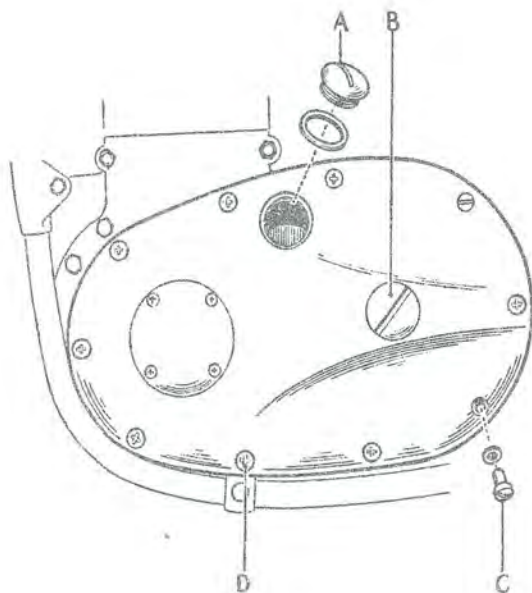

FIG. A.13.
There are two of the chaincase cover screws which have their heads painted red; they are situated mid-way along the lower rim of the case, the rear one being the oil level screw (C) and the front is the drain screw (D)—see Fig. A.13.